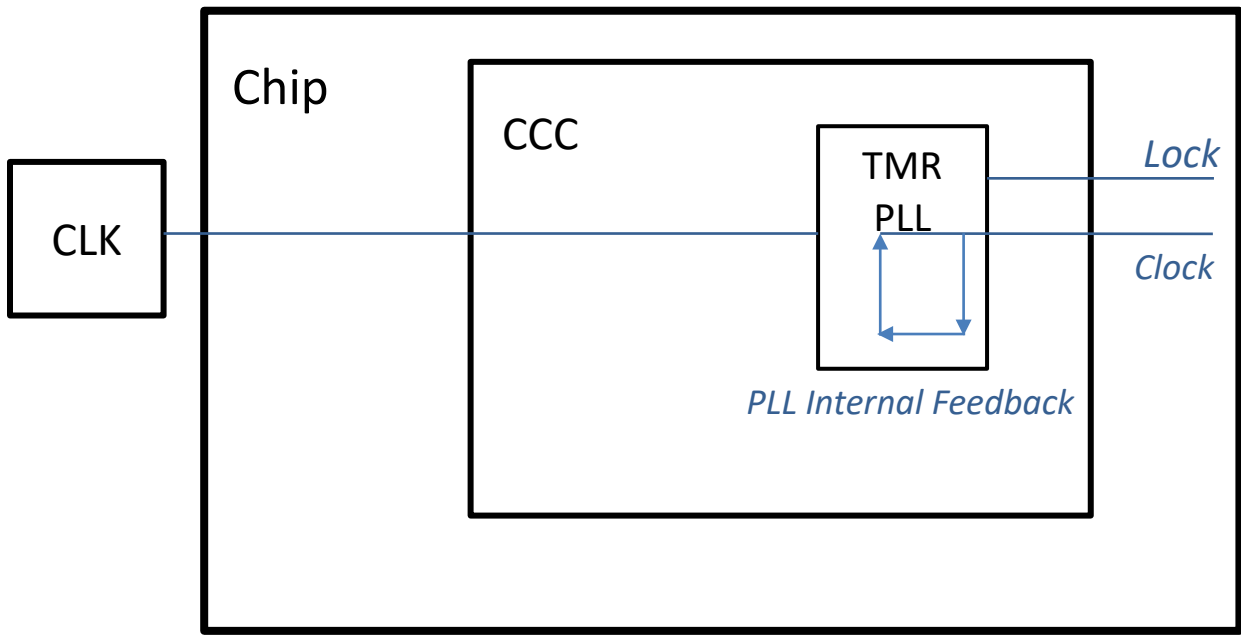

Fig. 3 Block diagram illustrates an external clock feeding into TMR PLL with PLL-internal feedback.
As shown in Fig. 3, an external clock of 20MHz is the source to feed a TMR PLL in PLL-internal feedback mode. The TMR PLL generates four (4) clocks with frequency of 1MHz, 50MHz, 100MHz, and 200MHz. Each generated clock controls a chain of 200 FF. A checkerboard data pattern is the input to these chains. Outputs are monitored to identify and count the numbers of SEU. Heavy ions used to irradiate the device-under-test (DUT) are with LET of 8.9, 14.2, 22, 34.7, and 64.7MeV-cm2/mg.